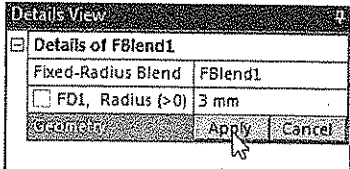

Figure 3-50 Choosing the **Apply** button from the **Details View** window
3. Choose the **Apply** button from the **Geometry** selection box in the **Details View** window to accept the selection of the edges to be blended, as shown in Figure 3-50.